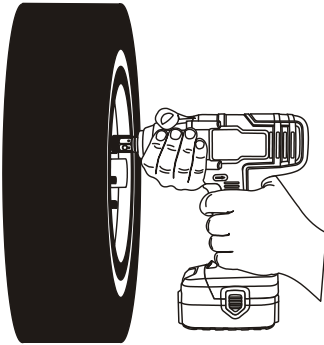

Fig. 7
4. Grasp the impact wrench handle (1) with one hand and the front housing of the impact wrench (2) with the other hand (Fig. 7).
5. Place impact socket (3) onto the wheel nut.